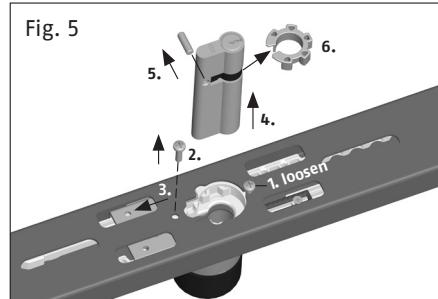

Fig. 5
2. Lock door bars and remove the door cylinder in the specified order according to Fig. 5.
3. Change the grub screw and the gear-wheels clip of the standard door cylinder to the new door cylinder, according to Fig. 5. The grub screw must protrude at the same distance on both sides.
8. Reinstall the door cylinder in the reverse order (Fig. 5). If the indentations do not correspond, loosen the stop screws 6. and 7. (Fig. 8), pull both door bars out until the gear-wheels do correspond and complete the installation of the door cylinder. Set the key pull-off position (see the instructions below).